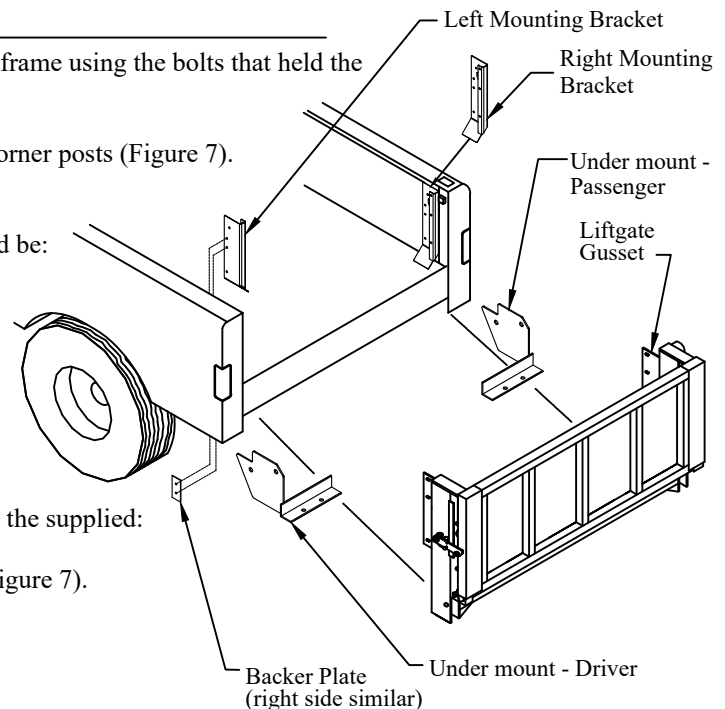

Figure 7: Mounting bracket and liftgate.
2. **Position** the mounting brackets into the truck bed in front of the corner posts (Figure 7).
- (3) 3/8"x1" hex head bolts on the bracket-side (Figure 7).
- (3) 3/8" lock washers, and (3) 3/8" nuts on the gusset-side (Figure 7).